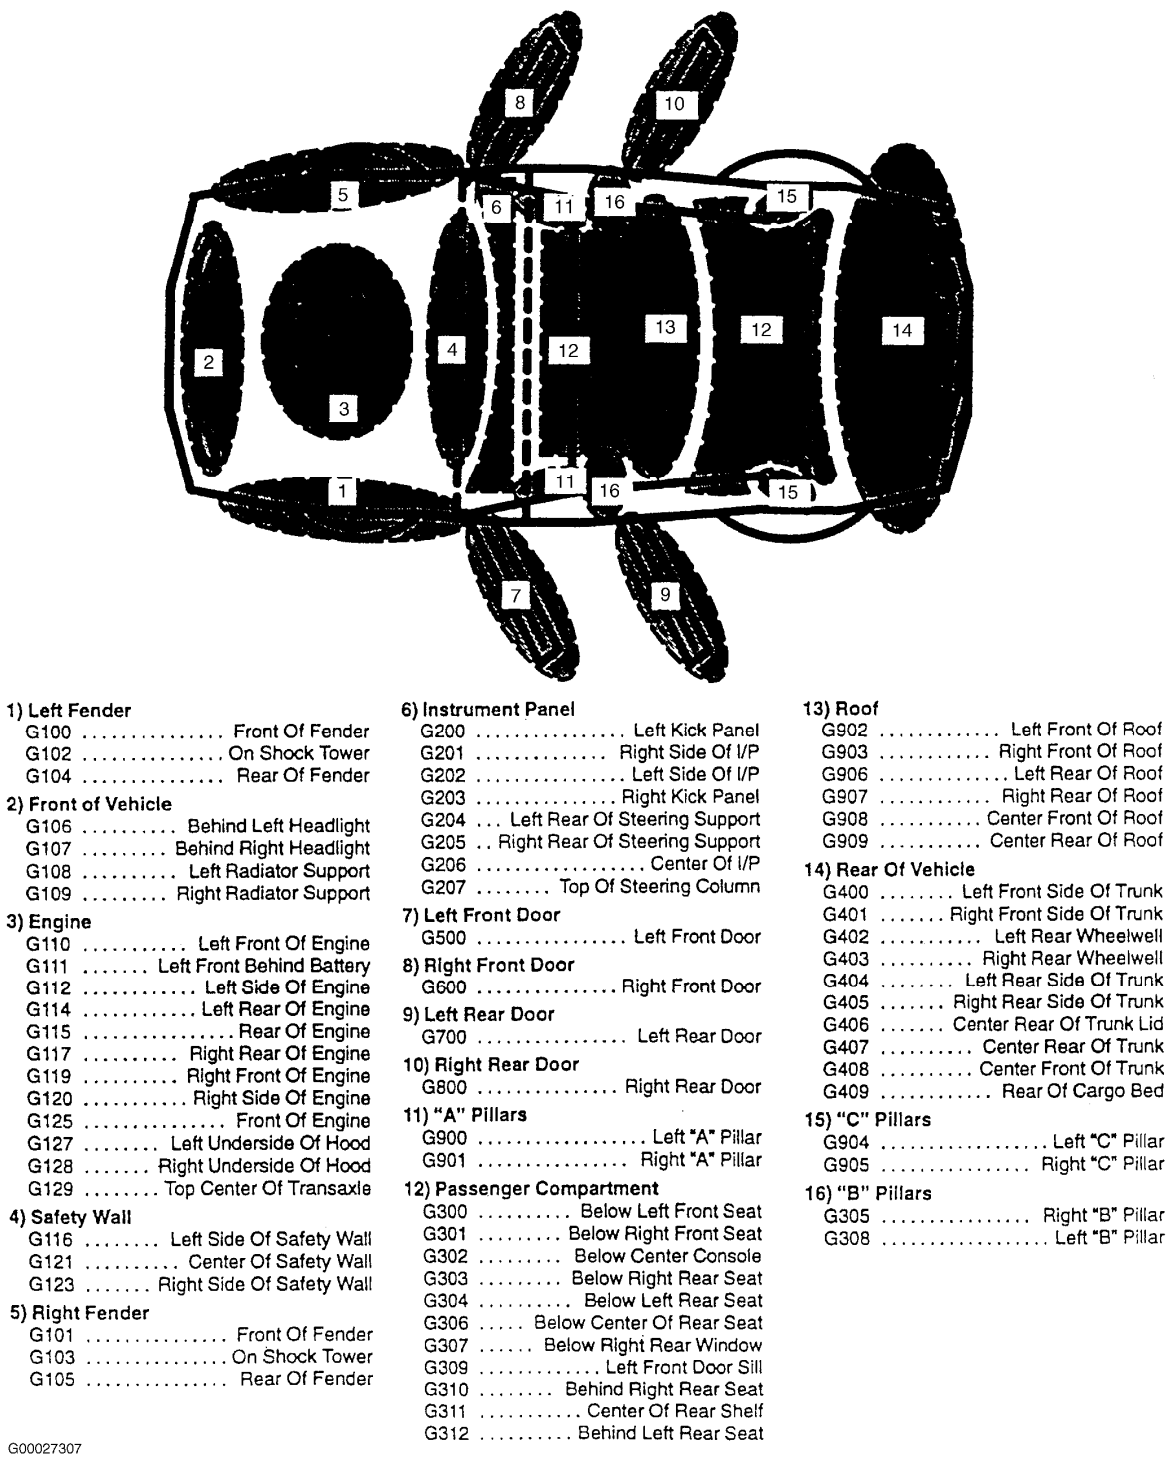

Fig. 2: Ground Numbers & Locations (2001 & Prior Model Years)
NOTE: The following illustration depicts standardized ground numbers and locations to be used in conjunction with Mitchell1's (R) wiring diagrams applying to 2001 and prior model years only. See Fig. 2 . Wiring diagrams applying to newer model years depict manufacturer-specified ground numbers and locations. Do not utilize the illustration with 2002 and newer model year wiring diagrams.